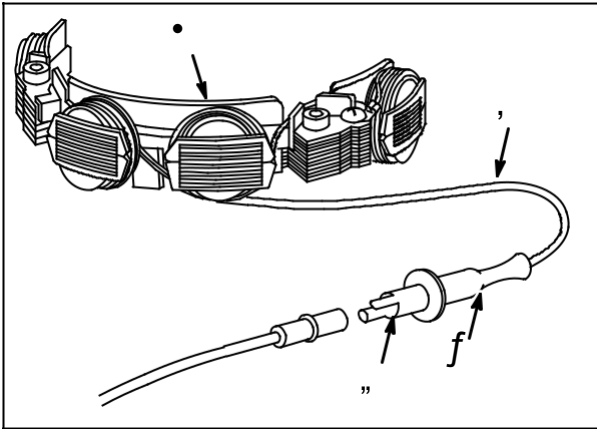

Fig. 12
Stator assembly (1), **Fig. 12**.